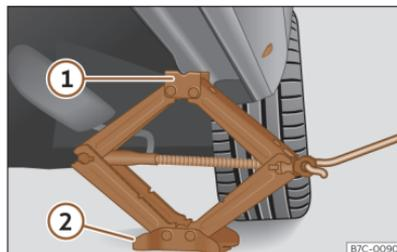

Fig. 202 Crossbar: mounting the jack on the vehicle.
- Turn the jack crank handle, located below the strut support point, to raise it until the tab **1** >>> **Fig. 202** is below the housing that is provided.